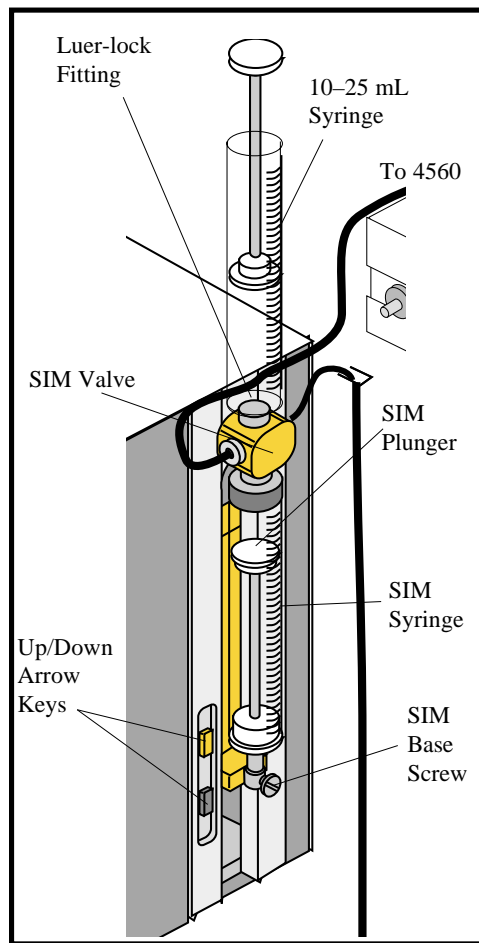

Figure 5.4. Syringe Transfer Loading
Syringe Transfer Loading (see Figure 5.4)
2. With a flathead screwdriver, loosen and remove the base screw that connects the SIM syringe plunger to the SIM body at the base of the SIM syringe (see Figure 5.4).